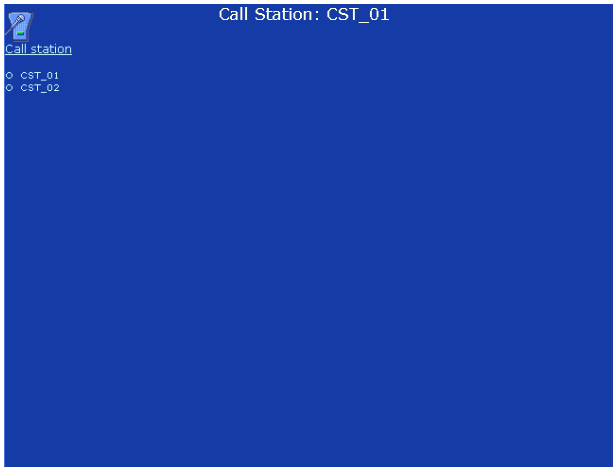

figure 38.5: Zone selection, step 1
- 1 Go to *Configure > Action programming > Call station*. A screen similar to the one in figure 38.5 appears in the main frame of the web interface.